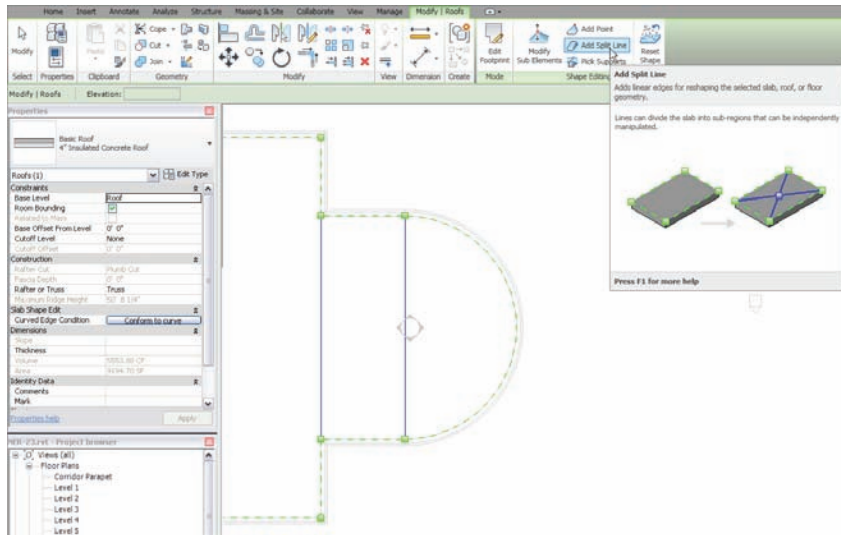

FIGURE 7.7 Start splitting the radial portion of the roof.
3. With the roof selected, select the Create Split Lines button shown in Figure 7.7.
4. Draw a line from the points shown in Figure 7.7.